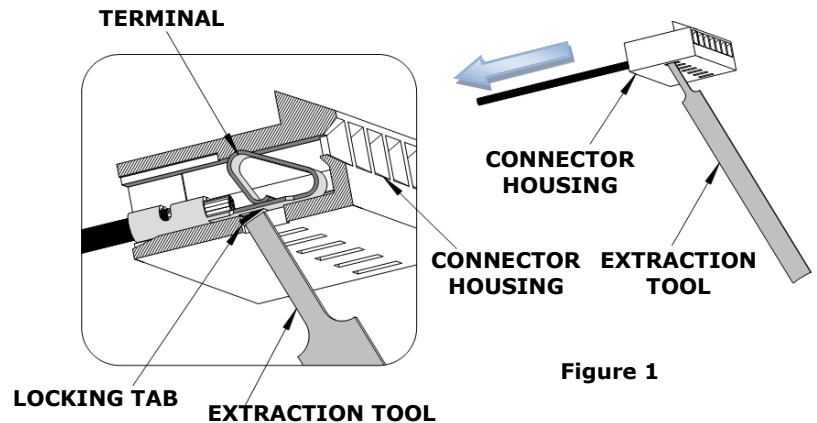

Figure 1
1. Insert the extraction tool into the slot on the bottom of the connector housing as shown in Figure 1.